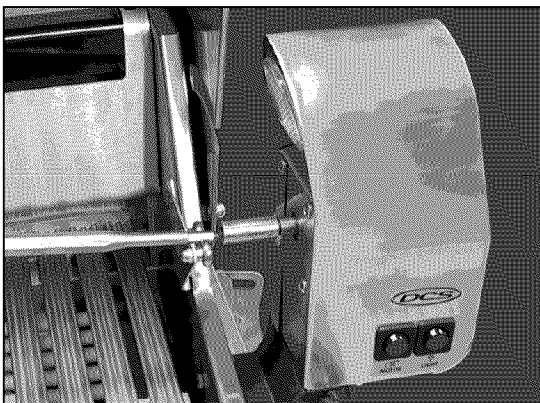

FIG. 48
1. Place prepared rod into motor, lay across to other side in groove (Fig. 48).